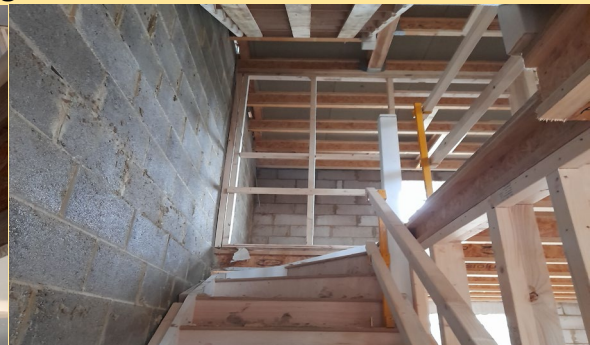

FIG 2
- Review current plots to ensure a line of timber noggins @ 470mm centres is installed (fig 2).